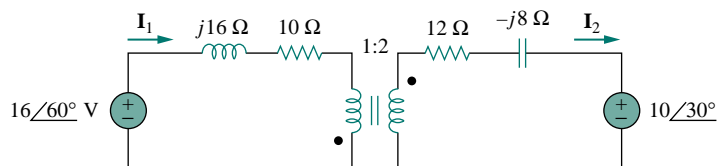

Figure 13.99 For Prob. 13.32.
- 13.32** (a) Find I_1 and I_2 in the circuit of Fig. 13.99 below.